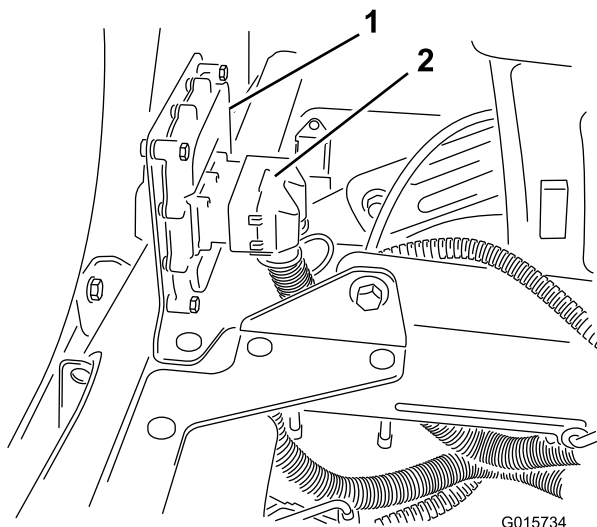

Figure 16
1. Connect the terminal on the wire harness into the electronic controller and secure it with an Allen wrench (Figure 16).